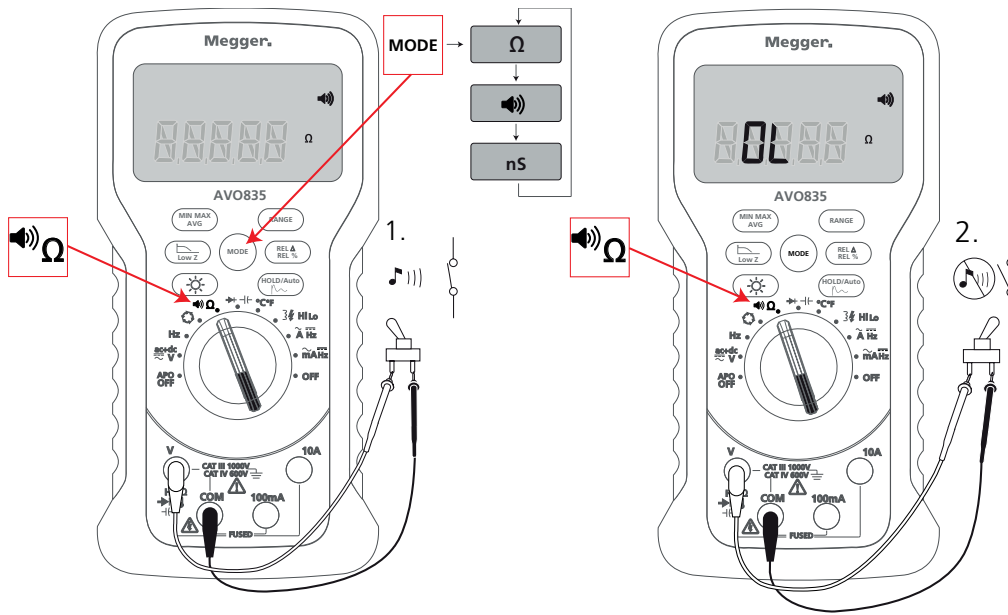

Fig 4: Continuity Test Set-up
- Set-up the instrument as shown in Fig 4.